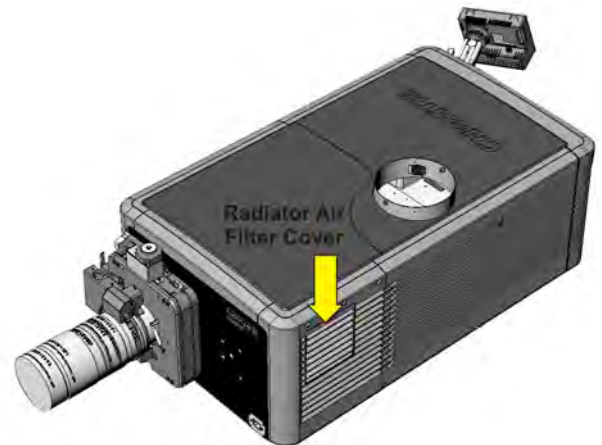

Figure 5-13 Radiator Air Filter Cover
1. Press down on the snap tab to remove the filter cover. (**Figure 5-13**)